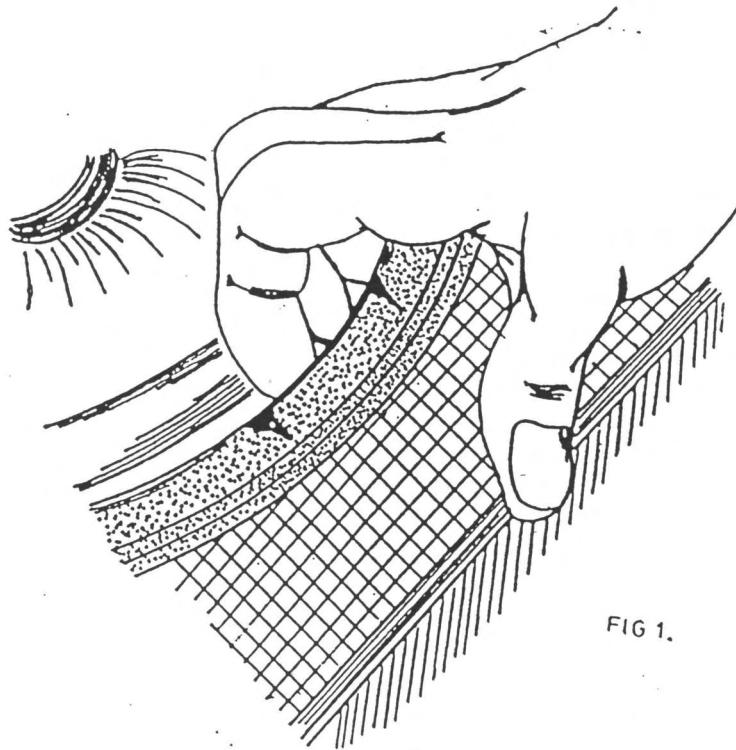

FIG 1.
1. Carefully remove trim ring SEE FIG 1.